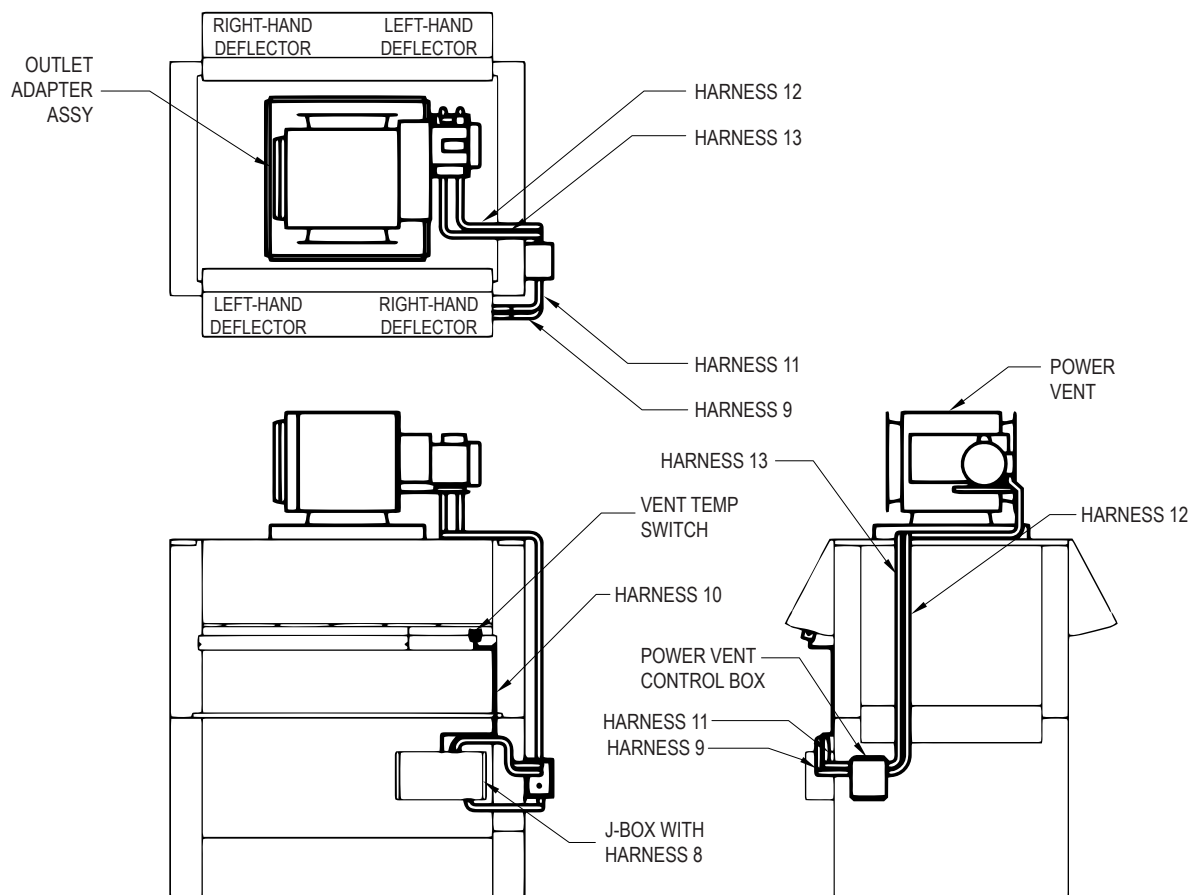
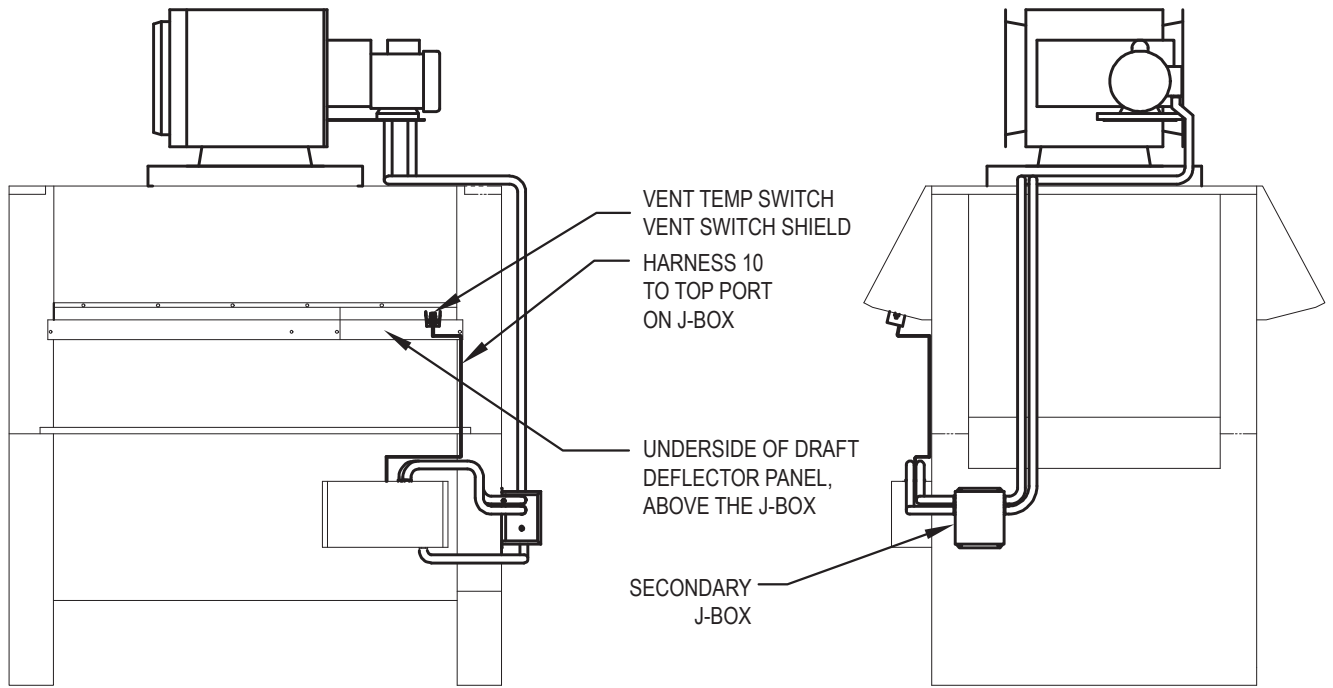

Figure 14. Orientation, Models 2100-4001
Figure 16. Vent Temp Switch
3. Mount the power vent (PV) control box on the right-hand end of the unit, near the J-box, using the 4x #10 screws provided. See the orientation drawing, Figure 14.
4. Install the draft deflector panels on the underside of the angled "wings" of the drafthood, using a pair of #10 screws to hold each in place and an additional pair of #10 screws to secure them together in the middle. See Figure 14 and Figure 15.
5. Install the vent temperature switch provided in the hole in the “right-hand” draft deflector panel above the J-box. The switch fits into the hole from beneath and is secured from above by a pair of #6 screws. It is surrounded by the vent switch shield. See **Figure 14** and **Figure 16**.
7. Identify and lay out the conduit-enclosed wiring harnesses per the orientation drawing, **Figure 14**.
9. Connect the end of HARNESS 9 with the wirenut to the J-box, using the provided connector. See **Figure 14**, for recommended conduit opening.
13. Connect the loose end of HARNESS 9 to the PV control box. See **Figure 14** for recommended conduit opening.
16. Connect the end of HARNESS 11 with 2 spade connectors and 1 stripped GRN wire, and connect it to the PV control box, using the connector provided. See **Figure 14** for preferred location.
20. Connect the end of HARNESS 12 with spade connectors to the J-box, using the connector provided. See the orientation drawing, **Figure 14**, for preferred location.
24. Connect the end of HARNESS 13 with spade connectors to the J-box, using the connector provided. See the orientation drawing, **Figure 14**, for preferred location.